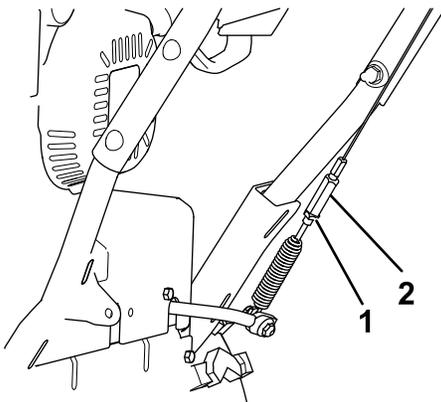

Figure 30
- 5. Loosen the jam nut (Figure 30).
- 6. Loosen or tighten the turnbuckle that adjusts the tension on the cable (Figure 30).